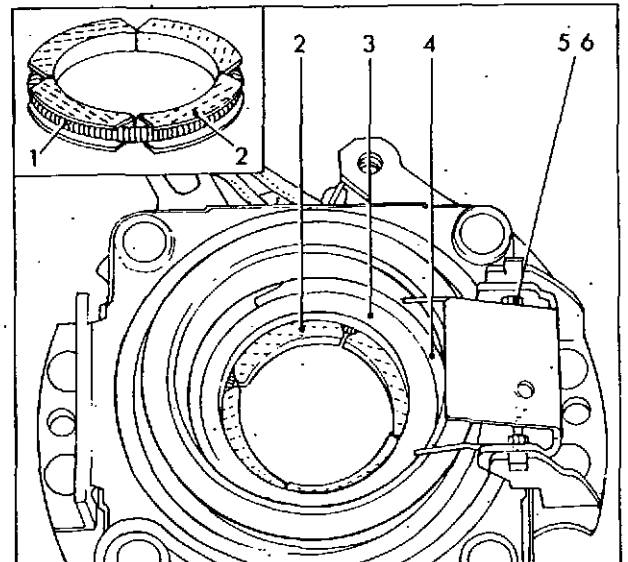

Fig. 18 Assembling solenoid plunger segments
Assemble the four segments (2) fig. 18 inside the spring (1) and position them in the solenoid plunger. Fit the retaining washer (3) over the segments ensuring that the projections on the underside engage between the segments and that the slot locates over the tongue